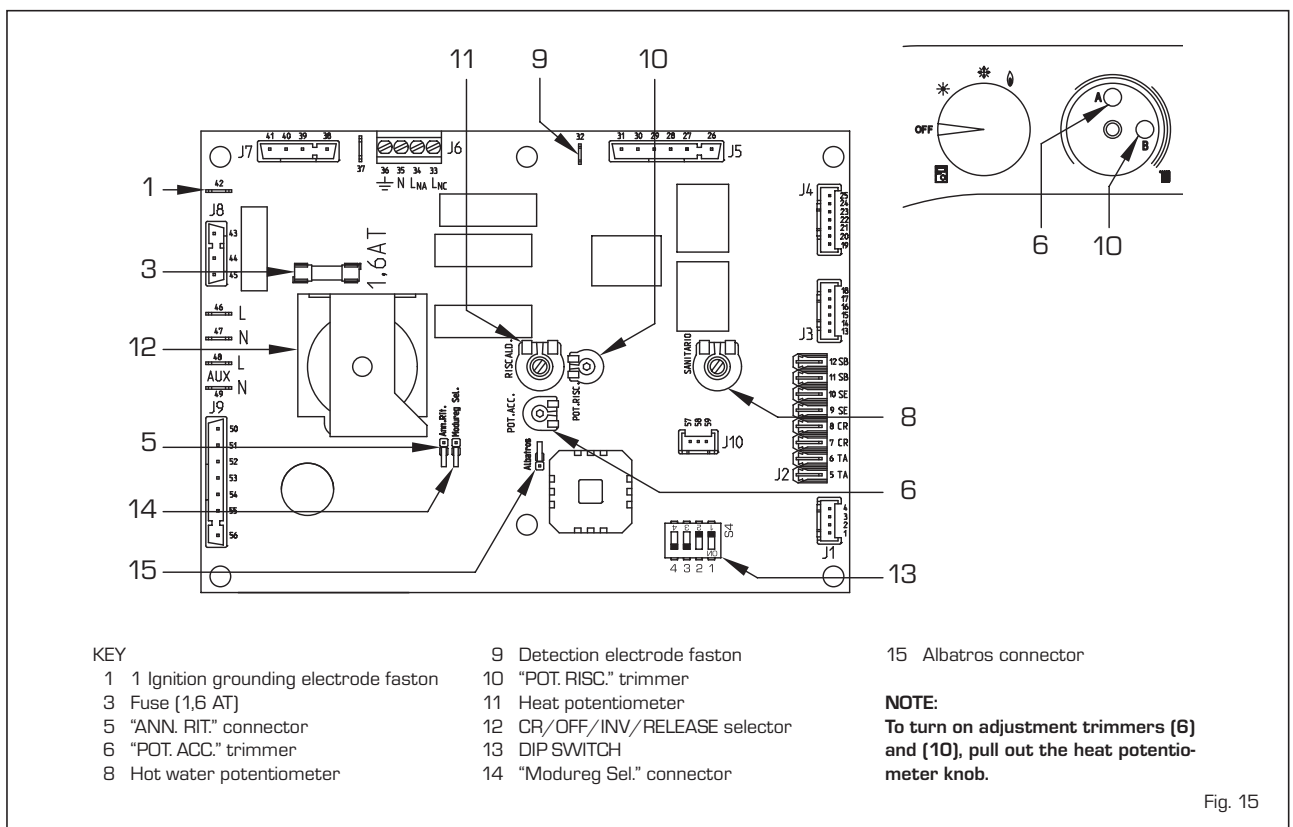

Fig. 15
- "POT. RISC." trimmer (10 fig. 15)
- "POT. ACC." trimmer (6 fig. 15)
- "ANN. RIT." connector (5 fig. 15)
- DIP SWITCH (13 fig. 15)
- "Modureg Sel." connector (14 fig. 15)
- "Albatros" connector (15 fig. 15)
58 kW factory setting, use a screwdriver on the heat power trimmer (10 fig. 15). To increase operating pressure, rotate the trimmer clockwise, to reduce it, rotate the trimmer counter-clockwise.